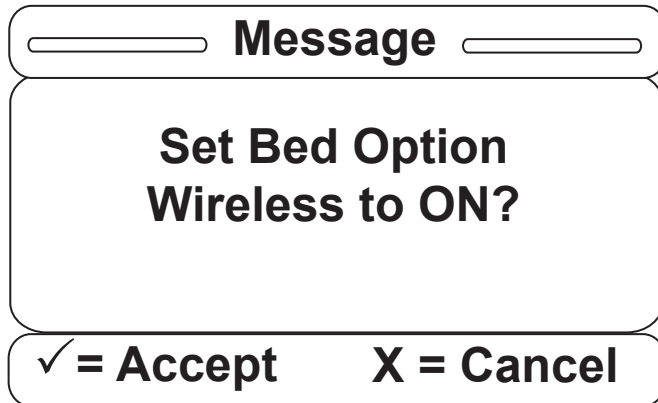

Figure S-20
20. After Wireless has been selected, a confirmation screen will be displayed as shown in Figure S-20. Confirm you want to Set Bed Option Wireless to ON by pressing “Enter” on the footboard panel. If needed, press “Exit” to cancel the operation.